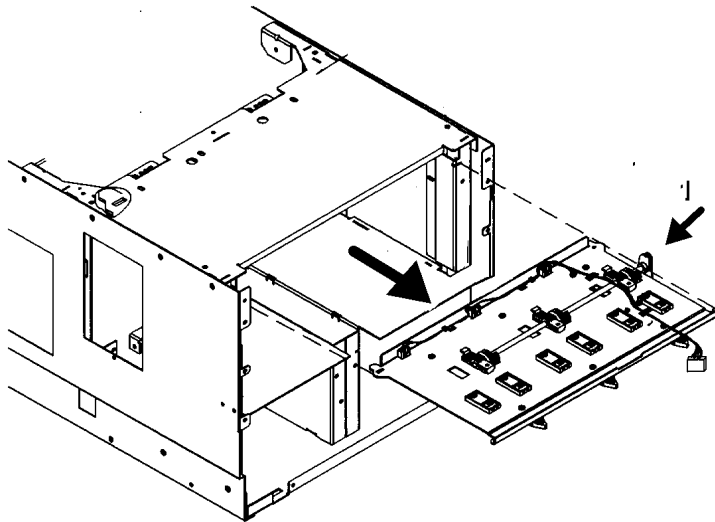

Figure 5-15. Sliding the Removable Magazine Guide Assembly Out of the Chassis
While holding the magazine guide assembly from the front of the chassis, move the assembly a little to the right and then rotate the left side of the assembly down toward the drives. Rotating the left side of the assembly down makes it possible to rotate the camlock link (Figure 5-15 (1)) up and over the right side panel.